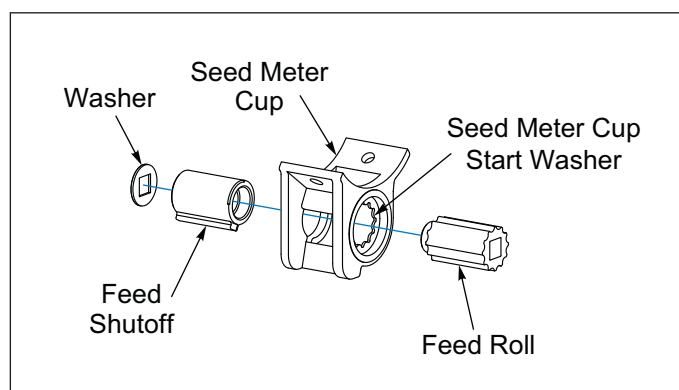

Figure 5-10: Small Seed Meter
3. Individual Seed Meter Cups can be adjusted as required. Adjustments can be made by loosening the 1/4-20 x 5/8 Machine Screws that mount the Seed Meter Cup to the Seed Box. Adjust the affected Seed Meter Cup so the Feed Shutoff is against the Seed Meter Cup Star Washer in the Seed Meter Cup (closed). Be sure the Feed Roll stays engaged in the Seed Meter Cup Star Washer. **See Figure 5-10.**